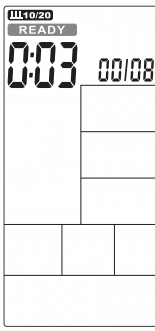

FIGURE 24
2. Cycle time counts down from 3 to 0, then monitor starts, buzzer beeps once per second and READY blinks once per second, displaying count '00/08' (Figure 24).